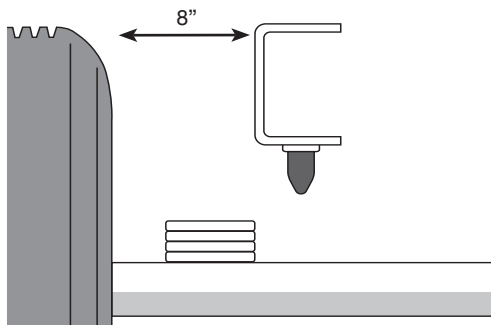

fig. 3
2. There must be 8" clearance between the frame and the rear tire for this kit to fit (fig. 3).